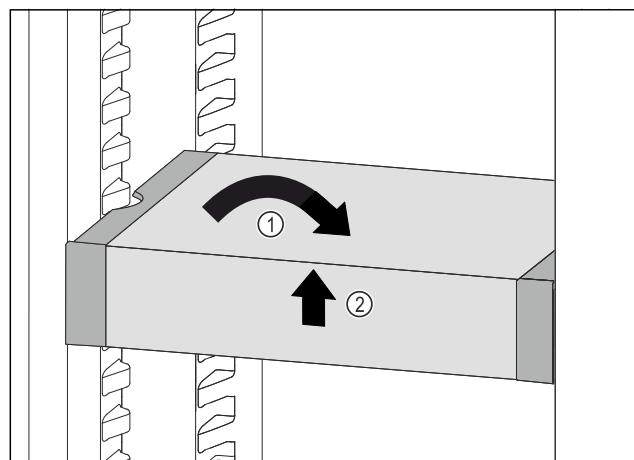

Fig. 113
- Set VarioSafe straight. Fig. 113 (1)
- Lift VarioSafe at the front. *Fig. 113 (2)*